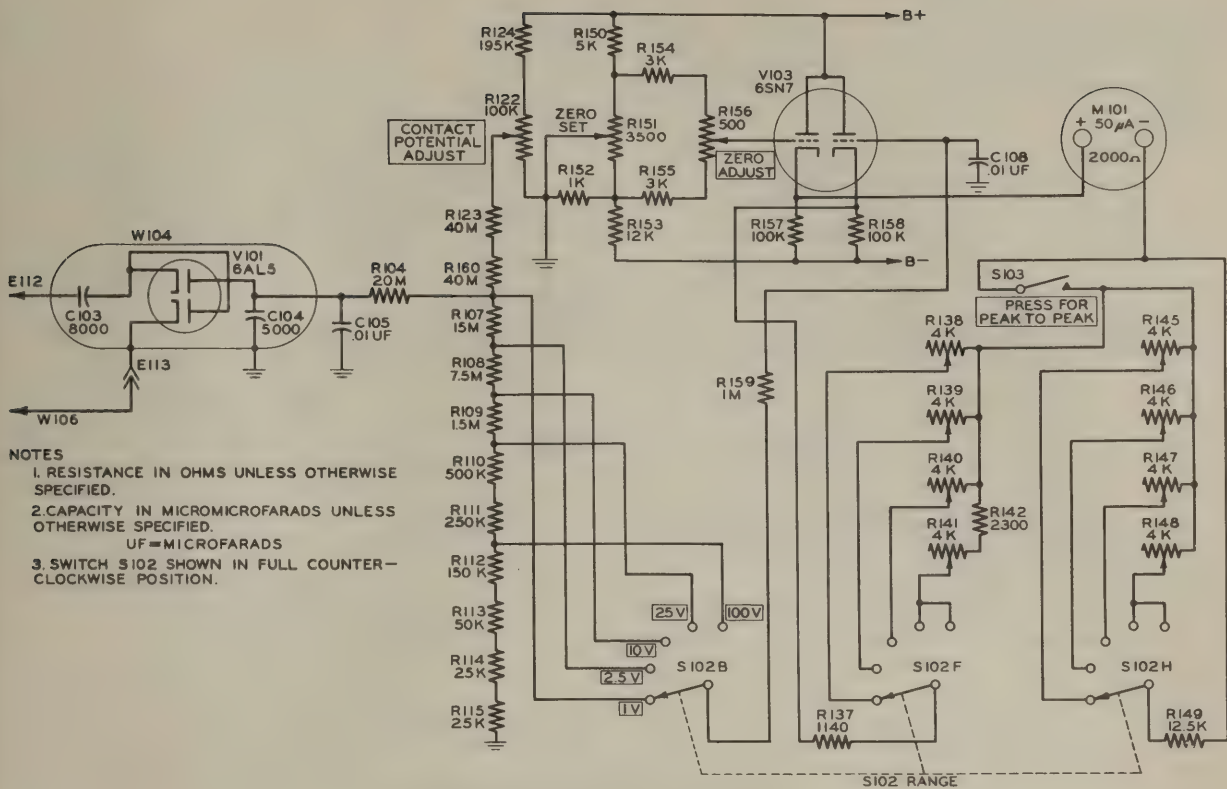

Figure 2-5. RF Voltmeter Circuit.
d. RF VOLTMETER CIRCUITS.—The portion of circuits in Multimeter ME-25B/U which is used for RF measurements is shown in figure 2-5. All RF voltages are applied directly to the diode probe, W-104, and are rectified with tube V-101 and the associated circuit inside the probe handle. Ground lead W-106, screwed in place on the side of W-104, is the ground return for RF measurements. The resulting DC voltage is applied across the divider network and a portion of it is connected to the signal grid of bridge tube V-103. Since this DC value is proportional to the peak-to-peak value of the applied voltage, and meter deflection is proportional to the DC voltage, the meter indicates RF voltage directly. If the voltage being measured has a true sine wave form, the RMS value can be read directly on meter M-101. However, if the wave form is any shape other than a sine wave, this RMS value has no meaning; press the switch marked PRESS FOR PEAK TO PEAK, S-103, to obtain a peak-to-peak reading on the meter. The peak-